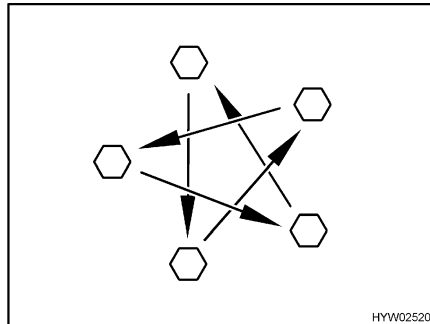

Fig. 186 Tighten the wheel nuts or wheel bolts cross-wise
- Check regularly that the wheel nuts or wheel bolts are firmly seated. Re-tighten the wheel nuts or wheel bolts of a changed wheel cross-wise (Fig. 186) after 50 km (30 miles).